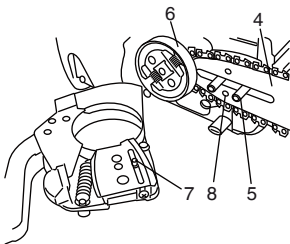

Fig. 3
3. Install the chain bar (4) onto the bolts (5), then push it toward the sprocket (6) as far as it will go. Make sure that the boss of chain tension adjust bolt (7) fits into the hole (8) in the bar (8). (Fig. 3)
Slightly move the bar back and forth and make sure the chain tension boss (7) fits into the hole (8) in the bar properly. (Fig. 3)